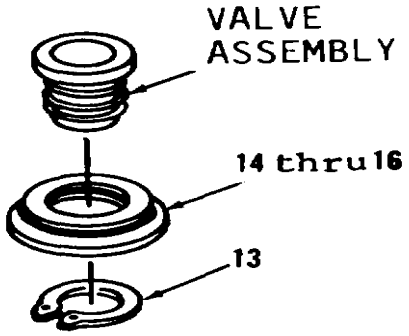
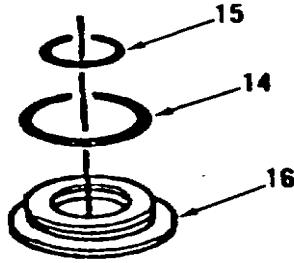

Figure 6-32.
Figure 6-33.
- 5. Remove retaining ring (13, Figure 6-32) from valve assembly.
- 6. Remove items 14 thru 16 as an assembly from valve assembly.
- 7. Remove preformed packings (14 and 15) from retainer (16, Figure 6-33). Discard preformed packings (14 and 15).